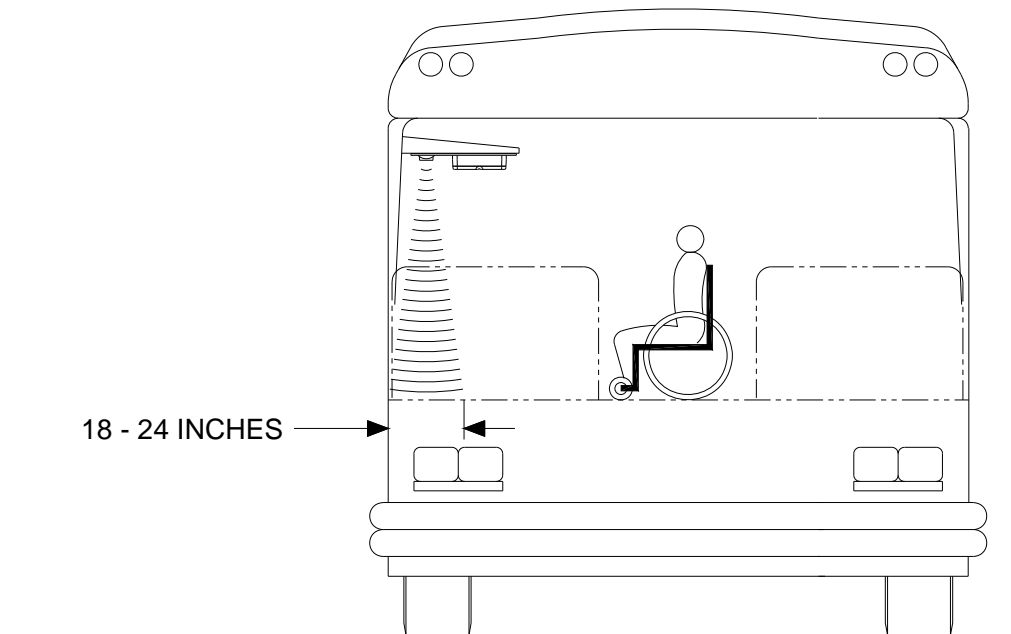

FIGURE 4: TWS AREA
1. Refer to **FIGURE 4**. Place wheelchair with passenger in center aisle of bus, pointed at doorway where Threshold Warning System (TWS) is installed. The TWS should not detect a wheelchair and passenger when they are located this far from doorway.